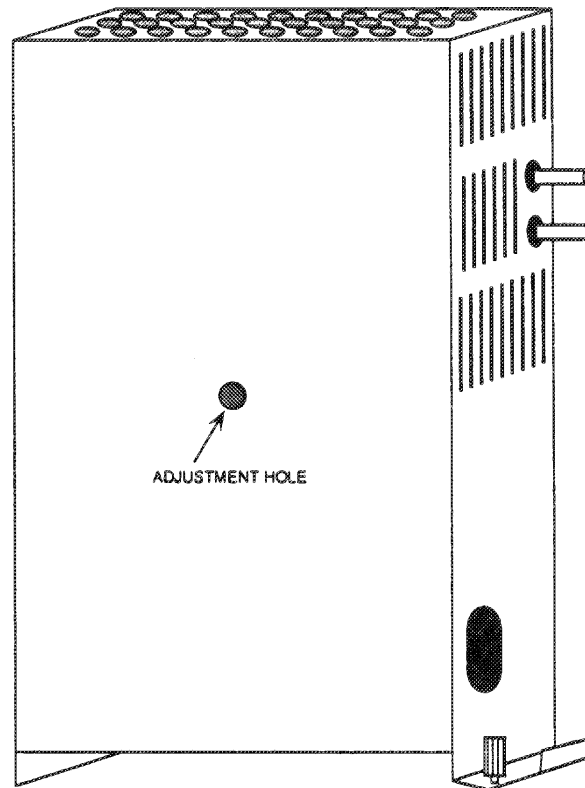

Figure 32 The +5.00-V adjustment can be reached through this access hole on the left side of the power supply.
20. As shown in Figure 32, find the access hole on the left side of the power supply. With a long-handled 1/8-inch slotted screwdriver, tweak the +5.00-V adjustment pot (R11) clockwise 1/16 of a turn. Reinsert the supply and measure again (repeating step 18). If the meter still doesn't read +5.00 volts, repeat steps 18 through 20 until it does.